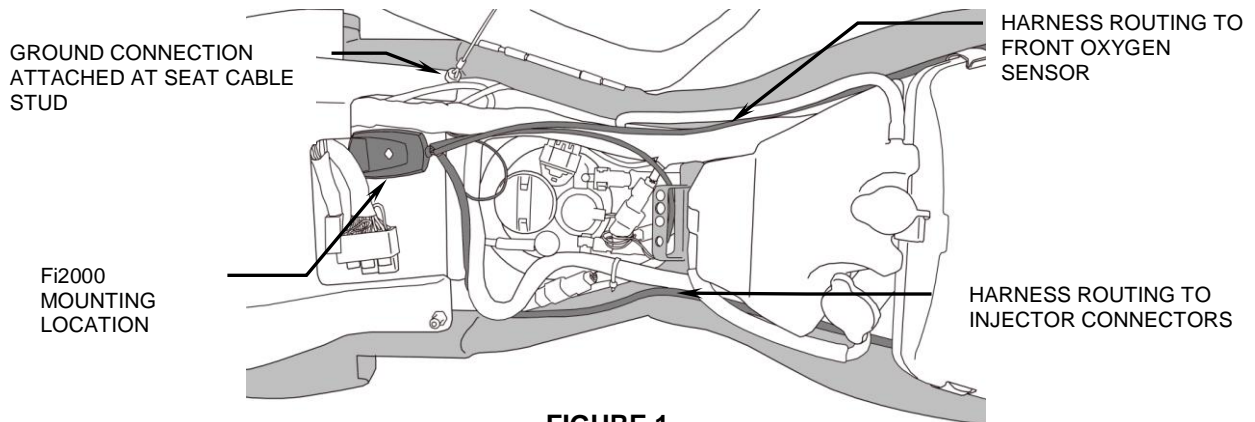
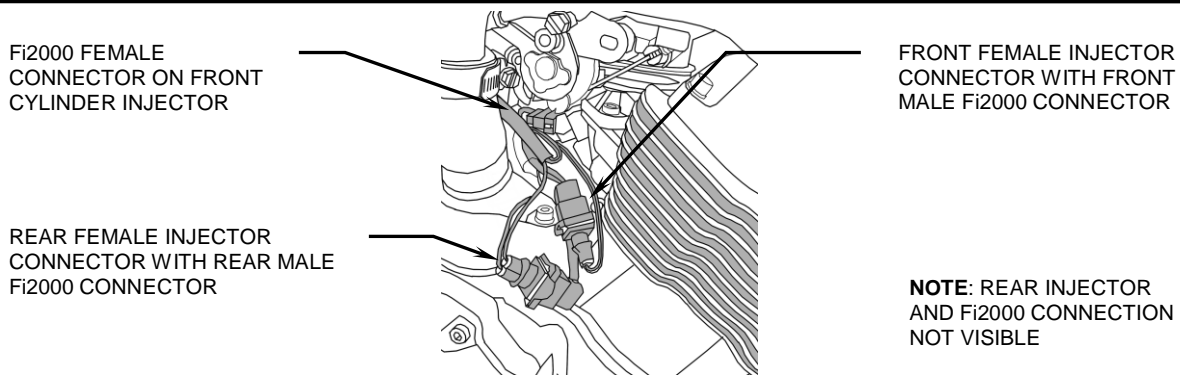

FIGURE 1
FIGURE 2
3. Place Fi2000 in under-seat area, run fuel injector connector harness up right side frame rail between top right frame rail, and radiator overflow tank, see Figure 1. At the rear of the airbox, route the harness below the airbox, and downward next to the inner radiator hose. Unplug both stock fuel injector connectors, on the front and rear injectors between the engine cylinders, see Figure 2. These are disconnected, by depressing the metal springs that are on the end of each female connector. The stock female connectors are marked "F" and "R", noting which connector goes to the front and rear injector, be sure to pay attention to this. Now connect the male Fi2000 connector labeled "FRONT" on the black sheathing to the front female H.D. connector. Plug the other Fi2000 male connector into the stock rear female H.D. connector. Then plug the female Fi2000 connector labeled "FRONT" on the black wire sheath onto the front stock H.D. injector. Plug the other Fi2000 female connector onto the rear injector. Tuck all connectors neatly under injectors. Route harness next to water pump hose and along existing harness on frame rail. Pull slack out of harness leaving a little extra near injector connectors. Secure harness to water pump hose using (1) 8 inch zip tie and along right upper frame rail towards seat, using (3) 4 inch zip ties to existing harness.
6. Install (3) 6" zip ties to secure front O₂ sensor harness to existing wire loom along left upper frame rail. Use (1) 4" zip tie to secure harness to vacuum line. Reinstall buttonhead socket screw at bottom of left radiator shroud. Use blue medium strength thread locker to ensure screw stays tight.
7. Remove hex nut securing plastic shroud near seat cable, see Figure 1. Place ground terminal on stud and tighten nut securely.
8. Remove the backing from the Velcro and attach the Fi2000 to the frame cross member as shown in Figure 1.
9. Verify the wire connections by (1) turning the ignition on, prior to starting, and see if all three LED's are on steady and then go off after 3 to 4 seconds. If you have no light, your ground connection (BLACK wire) has not made proper contact or the injector connections are not complete. (2) After achieving a steady light from all three LED's, start the motorcycle, wait 15 seconds and let it idle, the green light should now be the only LED on. If all three LED's are still on after start up, verify you have attached the injector connectors correctly. Reattach the door when finished. **Note:** Make sure the ignition is turned off before changing any connection.